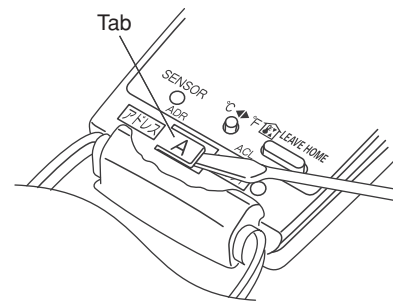
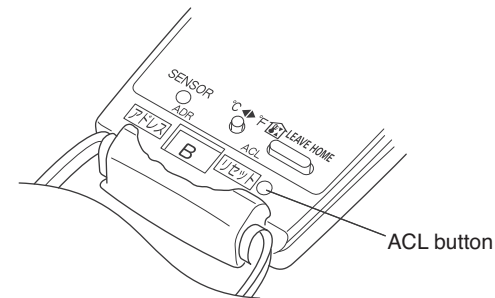
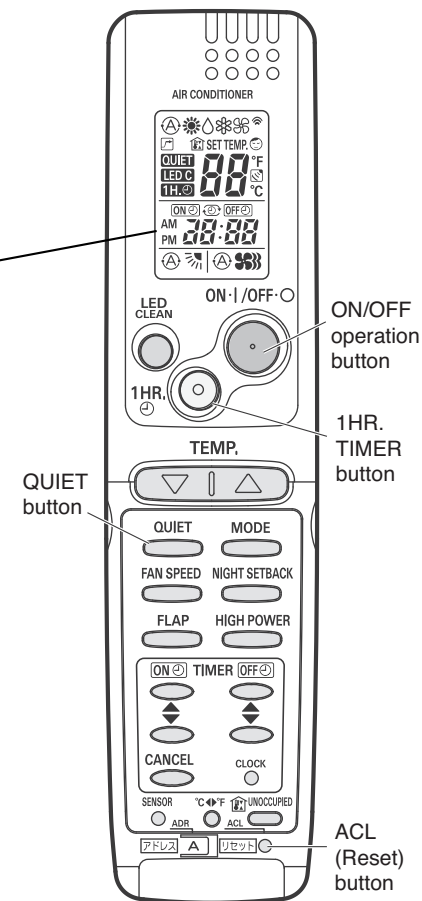

Fig. 62
Fig. 63
Fig. 64
- (1) Switch on the power source.
- (2) Break the address-setting tab marked "A" on the second remote controller to change the address (Fig. 62). When the tab is removed, the address is automatically set to B (Fig. 63).
- (3) Press and hold the remote controller QUIET button and 1HR. TIMER button. Then press and hold the ACL (Reset) button with a pointed object such as the tip of a pen. After 5 seconds, release the ACL button first, then release the QUIET and 1HR. TIMER buttons. "oP-1" (Test Run) appears, blinking in the remote controller clock display area.
- (4) Each time the 1HR. TIMER button is pressed, the display changes as shown below. Press this button 3 times to change the display to "oP-7" (Address setting). (Fig. 64)
- (5) "oP-7" has now been selected for address setting.
- (6) Press the ON/OFF operation button on the remote controller. (Fig. 64) Check that the "beep" signal-received sound is heard from the second indoor unit (approximately 5 times). The sound you hear is the signal that the remote controller address has been changed.
- (7) Finally press the remote controller ACL (Reset) button to cancel the blinking "oP-7" display. (Fig. 64)